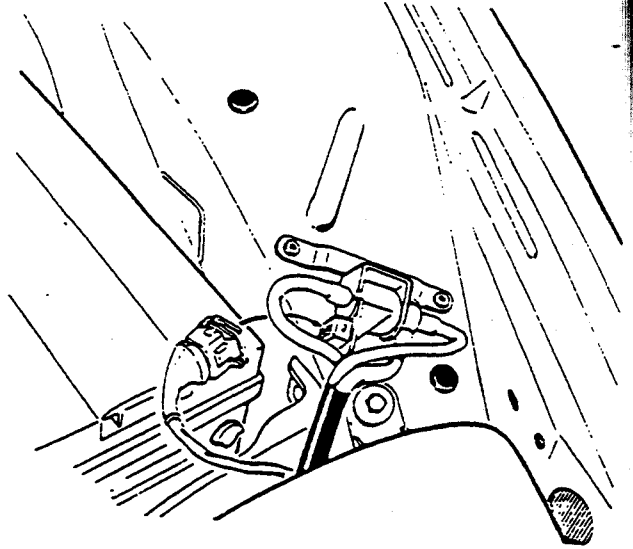

Figure 2. Removing Modulating Valve & Hoses
2. Remove the modulating valve and vacuum hoses (figure 2).